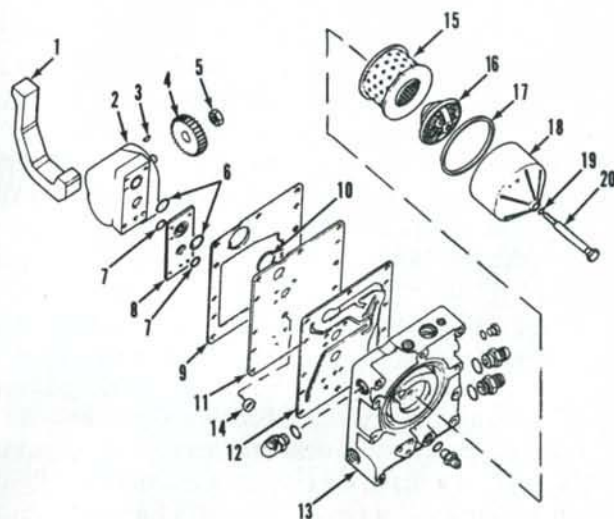

Fig. 32—Exploded view showing hydraulic pump, filter, multiple control valve and relative components.
20. **OPERATION.** Power steering is standard equipment on all models. The internal hydraulic pump (2—Fig. 32) pulls oil from the reservoir through a full flow suction filter installed in the outside of the multiple control valve (13). The filtered oil is pressurized by the pump and is supplied to the priority flow divider valve in the multiple control valve. The flow divider valve directs 3 gpm (11.35 L/min.) of oil to the steering system at all engine speeds. The fluid enters the hand pump and flows through the 2150 psi (14824 kPa) relief valve. With steering wheel in neutral position, oil flows out of return port and back to the multiple control valve. If steering wheel is turned in either direction, fluid in the hand pump will be directed through the metering valve to the desired steering cylinder port. Return oil from the cylinder flows back through the hand pump and on to the multiple control valve.
The filter element (15—Fig. 32) should be renewed after 20 hours, 200 hours and then every 800 hours of operation. Hydraulic fluid should be drained and new fluid installed every 800 hours of operation or once a year, whichever occurs first. Only Hy-Tran Plus fluid should be used and level should be maintained at full mark on dipstick. Refill capacity is 36 U.S. quarts (34 L) on tractors without front drive axle and 38.6 U.S. quarts (36.5 L) on tractors with front drive axle.
(15 through 20—Fig. 32). Disconnect steering lines, oil cooler line, hitch supply line, auxiliary valves return line and pto line from multiple control valve (13). Immediately cap or plug all openings. On models equipped with XL cab, remove left console. On all models, disconnect and remove park brake warning switch wires and linkage. Disconnect and remove pto operating lever. Remove two cap screws from opposite sides of multiple control valve. Install two 3/8 × 5 inch guide studs in the holes to aid in removal and installation of the assembly. Remove the balance of the retaining cap screws, then slide multiple control valve outward from rear main frame. Lay the assembly on a clean bench. Remove the four cap screws and copper washers, then lift off hydraulic pump assembly (2) and spacer plate (8), if so equipped.